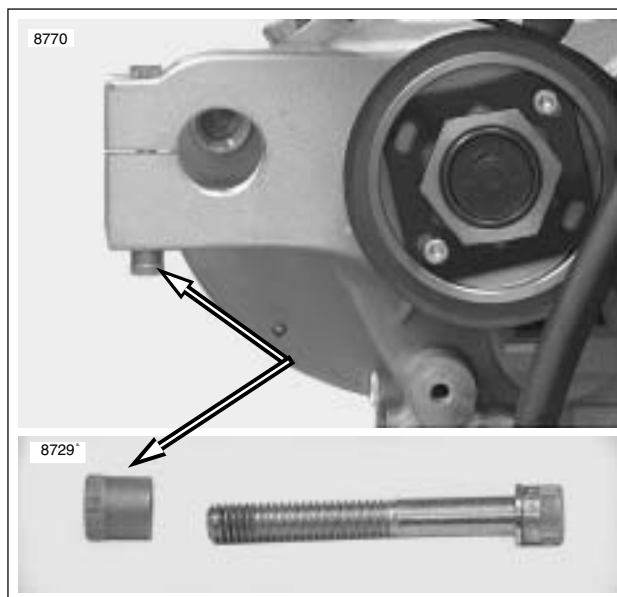

Figure 3-36. Threaded Insert
- c. See Figure 3-36. Apply LOCTITE 242 (blue) and install swingarm pivot shaft pinch bolt threaded insert.